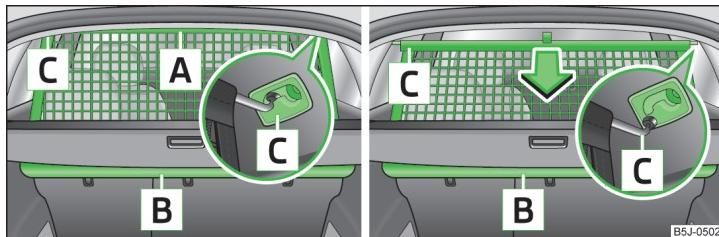
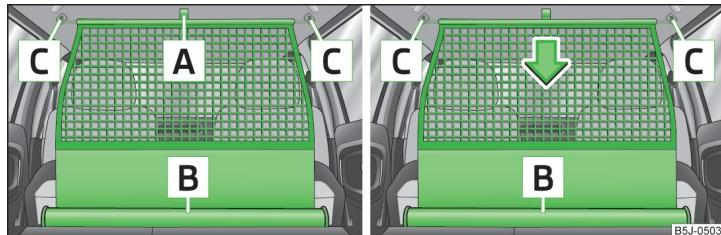

Fig. 70 Extending/retracting the net partition
Fig. 71 Extending/retracting the net partition
- Make sure that the transverse rod is inserted into the mounts **C** » Fig. 70 on page 74 or » Fig. 71 on page 75 in the forward position.
- ▶ Pull the net partition by tab **A** » Fig. 70 out of the housing **B** in the direction of mounts **C**.
- ▶ Pull the transverse rod back slightly first on one side and then on the other and remove it from the mounts **C** » Fig. 70.
- ▶ Pull the net partition by tab **A** » Fig. 71 out of the housing **B** in the direction of mounts **C**.
- ▶ Pull the transverse rod back slightly first on one side and then on the other and remove it from the mounts **C** » Fig. 71.